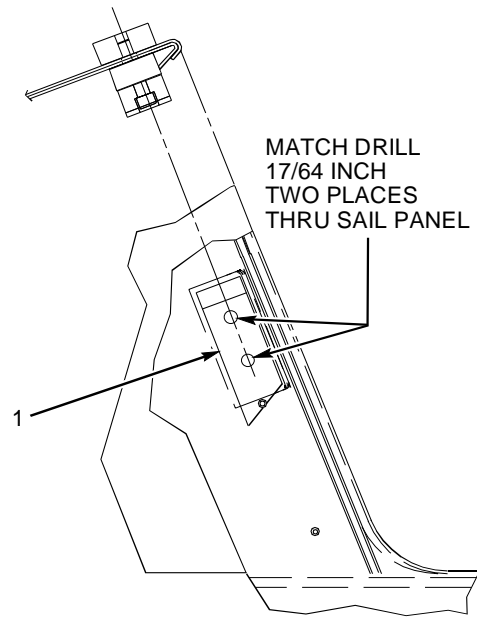

Figure 1-8. Front Door Ramp Block Locations (2 and 4 Door)
- 1) Install front door ramp block (see figures 1-8 and 1-9).
- a. Position front door ramp block (1) onto sail panel (left side positioned at first rivet; right side positioned at second rivet).
- b. Match drill two places each side 17/32-inch as shown in figure 1-8.